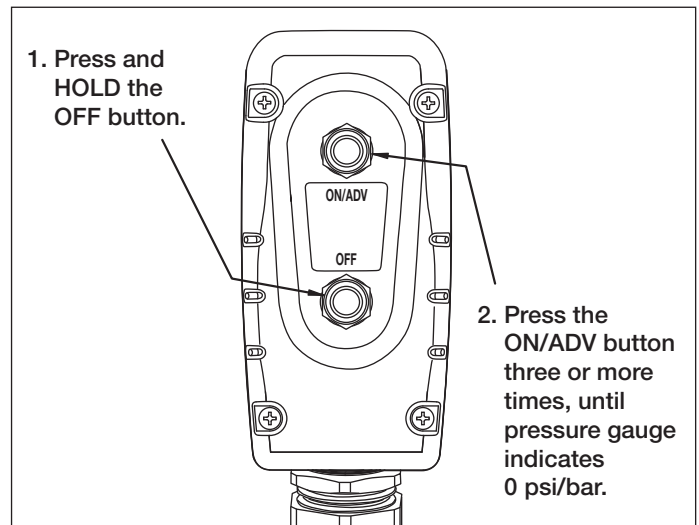

Figure 7, Relieving Pressure (using pendant buttons)
- Press and hold the “OFF” button. See Figure 7.
- While continuing to hold down the “OFF” button, press and release the “ON/ADV” button three or more times, until the pressure gauge indicates zero (0) psi/bar. The hoses can now be removed.